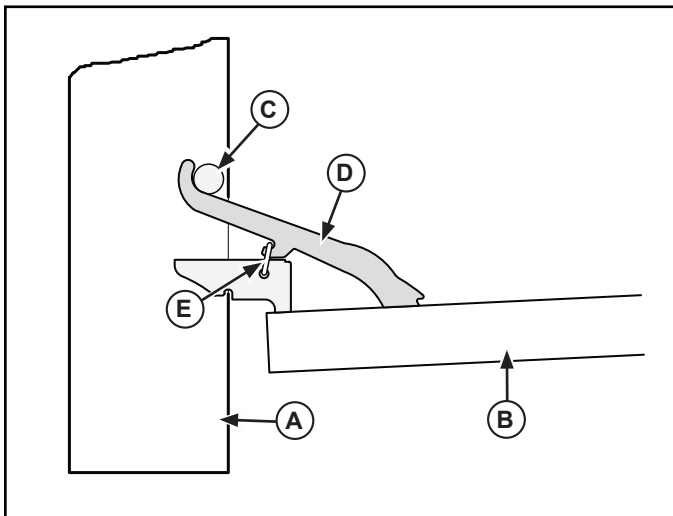

Figure 5. Oven Door and Hinge Lock (up or locked position).
4. Place the hinge lock (E) over the hinge arm (D) as shown. Repeat on both sides. See Figure 5.